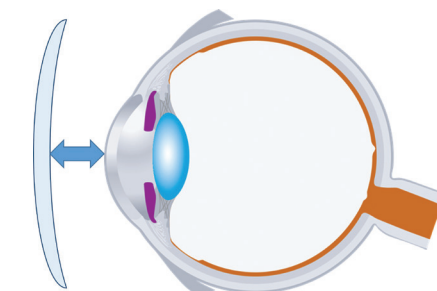

FIG. 22
**BVD:** The distance from the back of the lens to the corneal apex (Fig. 22). BVD affects the power of the lens. The power of a plus lens increases when moved further from the eye. The power of a minus lens increases when moved closer to the eye. Therefore, the difference in the refractive vertex distance and the actual worn distance can either increase or decrease the effective power of the lens.